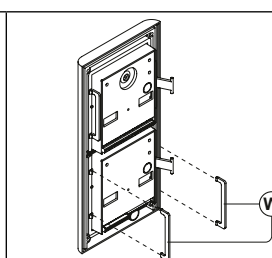

Fig. 4
Fit the anti-tampering locks (W) as shown in **Fig. 4**.